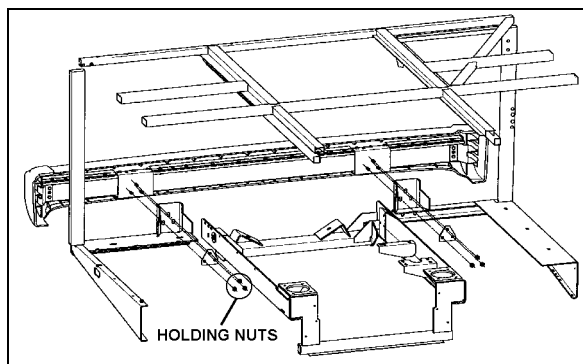

FIGURE 21: REAR BUMPER ASSEMBLY
1. Remove 6 nuts (3 on each side) holding bumper assembly to vehicle and remove bumper (Figure 21).